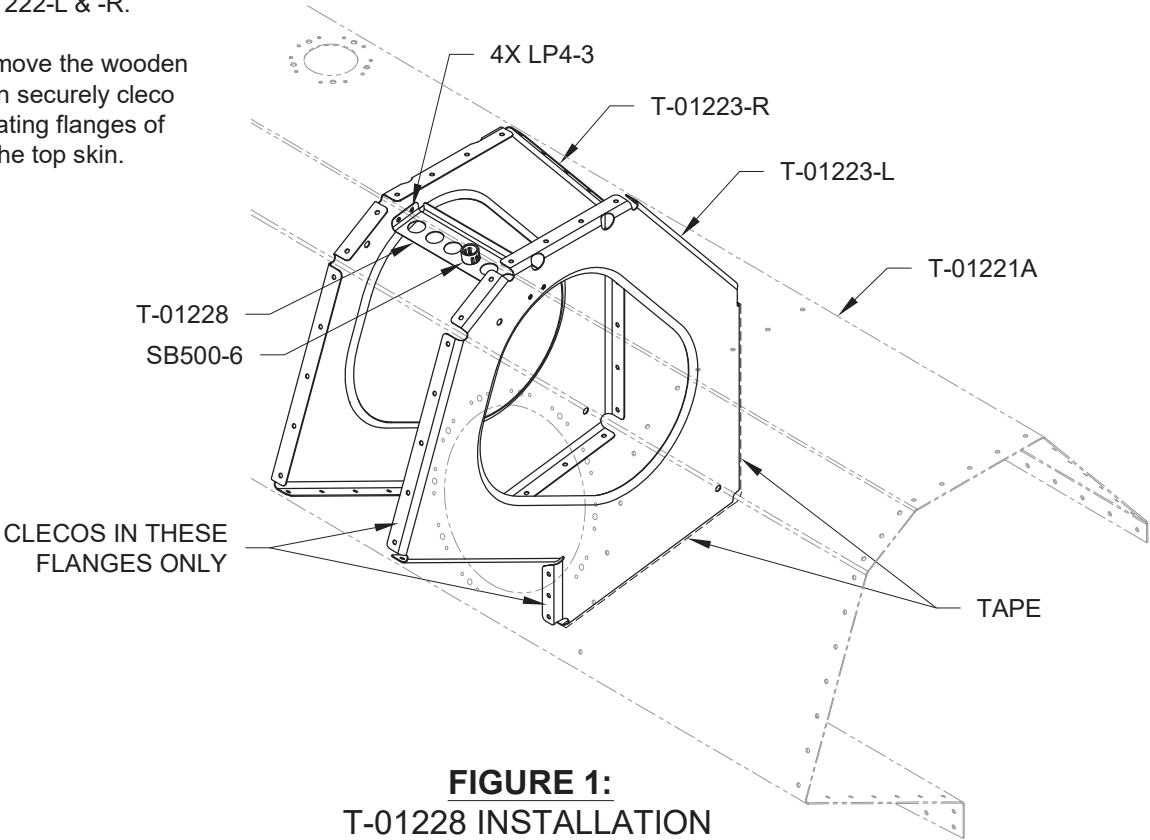

FIGURE 1:
Step 4: Apply a bead of sealant to the flanges of the T-01223-L & -R that mate with the top skin, use a craft stick to smear the sealant uniformly (approximately 1/32 thick) over the flanges, then cleco the ribs to the top skin using only the two flanges indicated in Figure 1.
Step 5: Rivet the T-01228 to the T-01223-L & -R as shown in Figure 1. Install the snap bushing into the center hole.